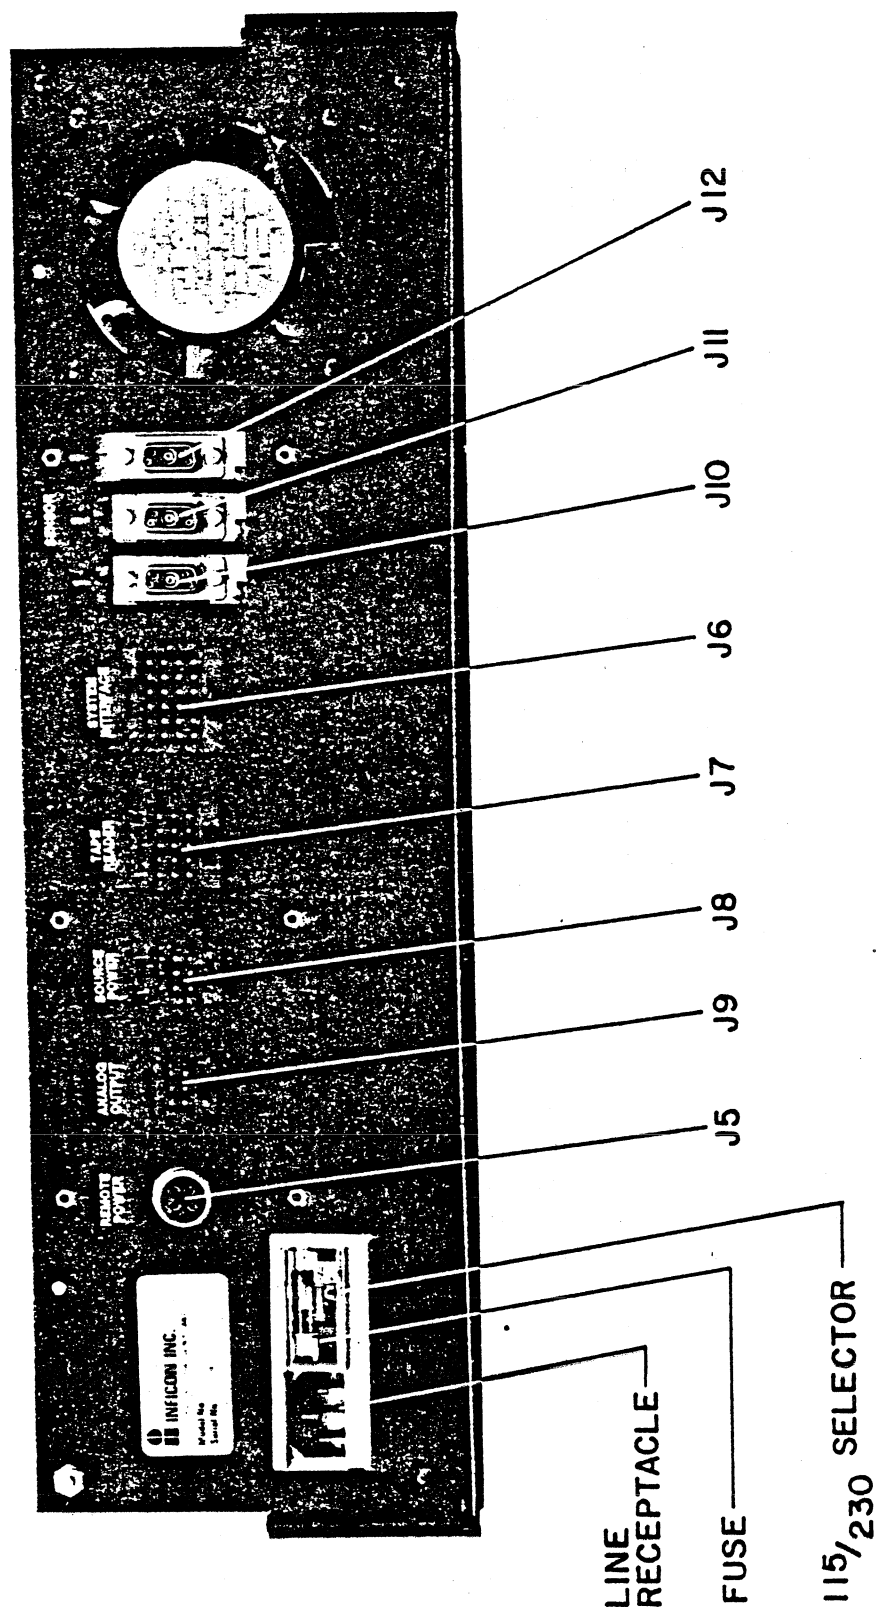

Figure 2-2 XMS-3 Rear Panel
2.2 Rear Panel Connections (Figure 2-2)